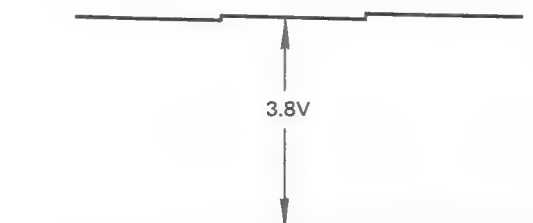

Figure 37
2. Observe TP3 on a oscilloscope, and adjust R777 to give 3.8V as shown in Figure 37.